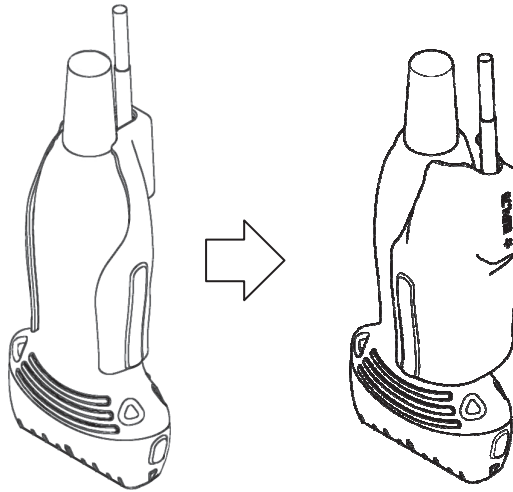

Fig. 9 How to release the Magnetic sensor attachment from the probe
- 1) Turn around the magnetic sensor attachment and remove it from the probe as shown in Fig. 9.